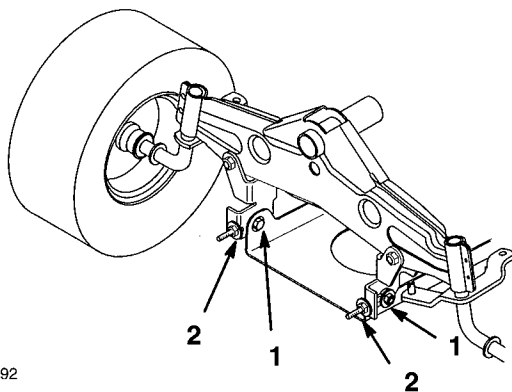

Figure 53
6. Rotate lock nuts on eyebolts to change adjustment (Fig. 53). To raise the front of the mower tighten the eyebolt lock nuts. To lower the front of the mower loosen the eyebolt lock nuts.
7. After adjusting both eyebolt lock nuts evenly, check the front-to-rear slope again. Continue adjusting eyebolts until the front blade tip is 0-3/8" (0-9.2 mm) lower than the rear blade tip (Fig. 53).
8. When front-to-rear slope is correct, tighten the pivot plate mounting bolts (Fig. 53).